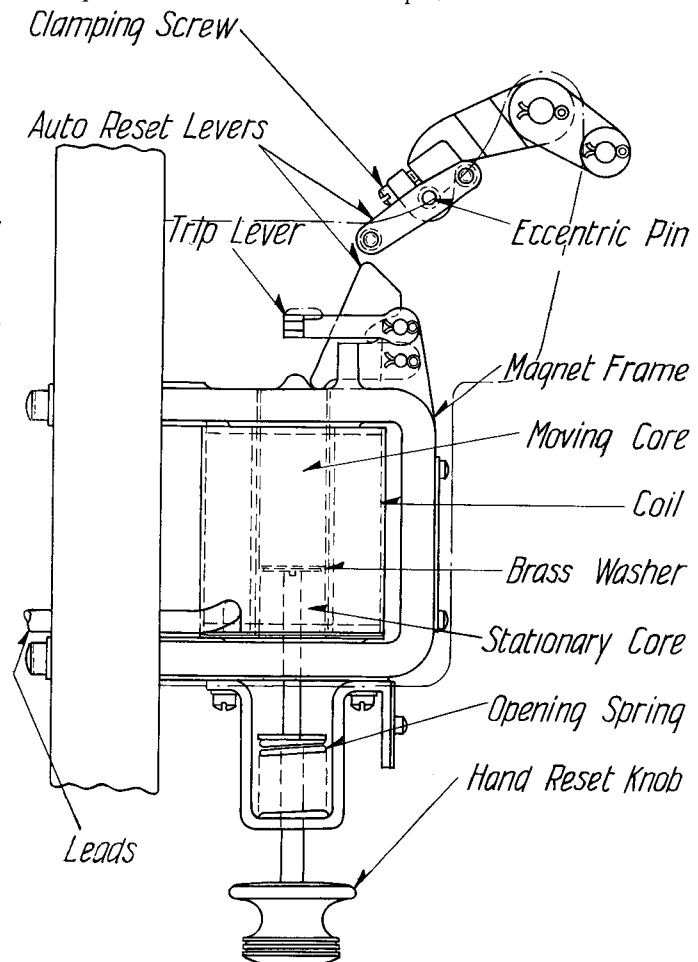

FIG. 12—UNDERVOLTAGE RELEASE ATTACHMENT
**Undervoltage Release Attachment (Figure 12)**—This is a device for use in automatically tripping a circuit-breaker when the supply voltage drops to a predetermined value. The mechanism consists of a solenoid type of magnet, the movable core of which is held to the stationary core against a strong spring. When rated voltage is applied to the coil of the magnet, sufficient current flows through it to hold the movable core against the resistance of the spring but when the voltage drops to less than 50% of normal the pull of the magnet is no longer great enough and the spring propels the movable core upwards thus tripping the breaker.
**Automatic Reset**—There are occasions, however, when automatic reset is required, particularly for remote control apparatus and for A-c. mechanisms the coils of which must be cut out of circuit when the breaker opens. For this service an adjustable leverage is provided which is actuated by the closing motion of the circuit-breaker to reset the undervoltage mechanism. This reset should be adjusted so that when the breaker is being closed the undervoltage moving core is pushed down until it almost touches the stationary core. Then if normal voltage is on the coil its ampere turns will be sufficient to hold the movable core against the spring. To make this adjustment, release the clamping screw (see Figure 12) and turn the eccentric pin slightly by means of a screw driver. Then reclamp by means of the clamping screw.